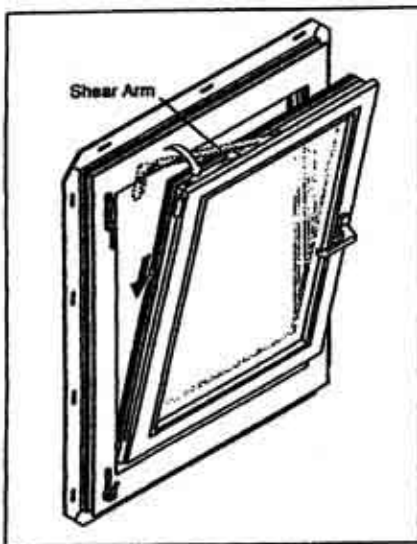

Figure 2-14. How to install the sash, and put the shear arm back into position
- 5.5 As you do this, the shear arm at the top of the sash may disengage. If this occurs, gently lift the arm upwards, align the arm parallel to the sash, and press the arm downward until it "clicks" into place. See Fig. 2-14.
Make sure that shear arm is in position before you install the sash. See Fig. 2-14.